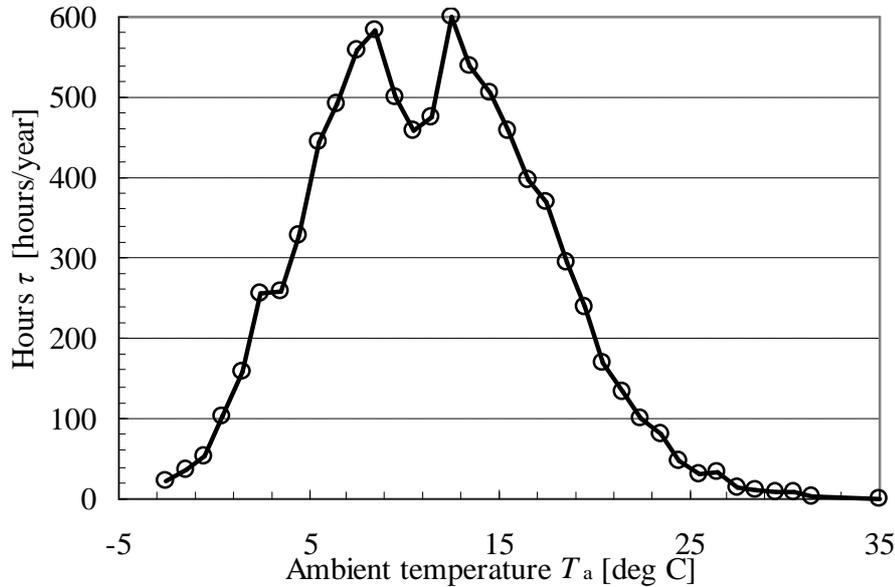

Fig.3 Ambient temperature distribution in London
Step 2: work out the summation of the above to obtain the annual electric energy consumption. The emerging number of hours is obtained from the hourly annual London meteorological data, arranged in a list for each 1°C interval (refer to Fig. 3).